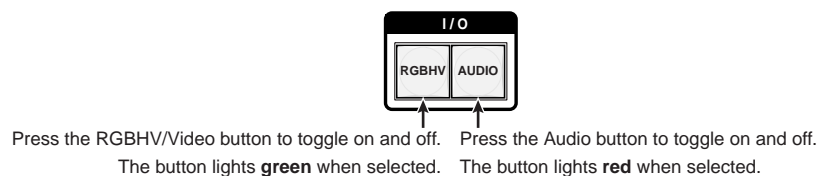

Figure 3-6 — Select RGBHV or video and audio
2. To select video and audio for the tie, if necessary, press and release the RGBHV (CrossPoint 450 Plus switchers) or Video (MAV Plus switchers) button and the Audio button until the buttons light (figure 3-6).